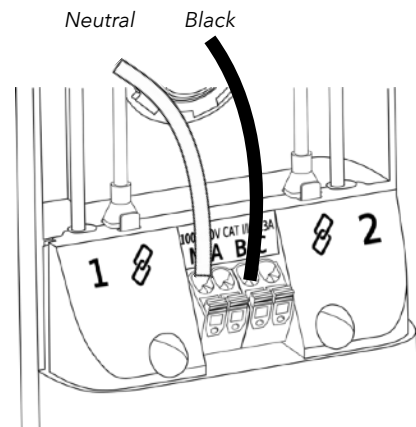

Fig 8
- Single Phase Panel. *Fig 8.*